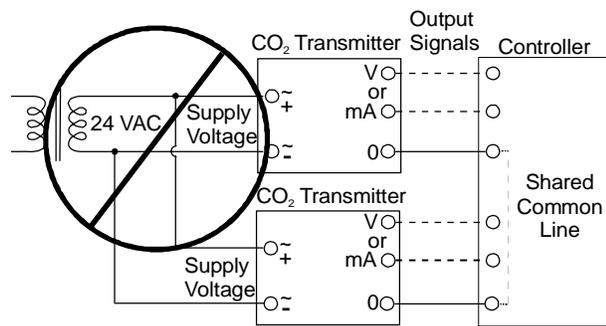

**Figure 2: Connecting Separate AC Supplies (Recommended)**
**Note:** To avoid a short circuit, isolate the 24 V power supply by providing a separate transformer for each transmitter as shown in Figure 2.